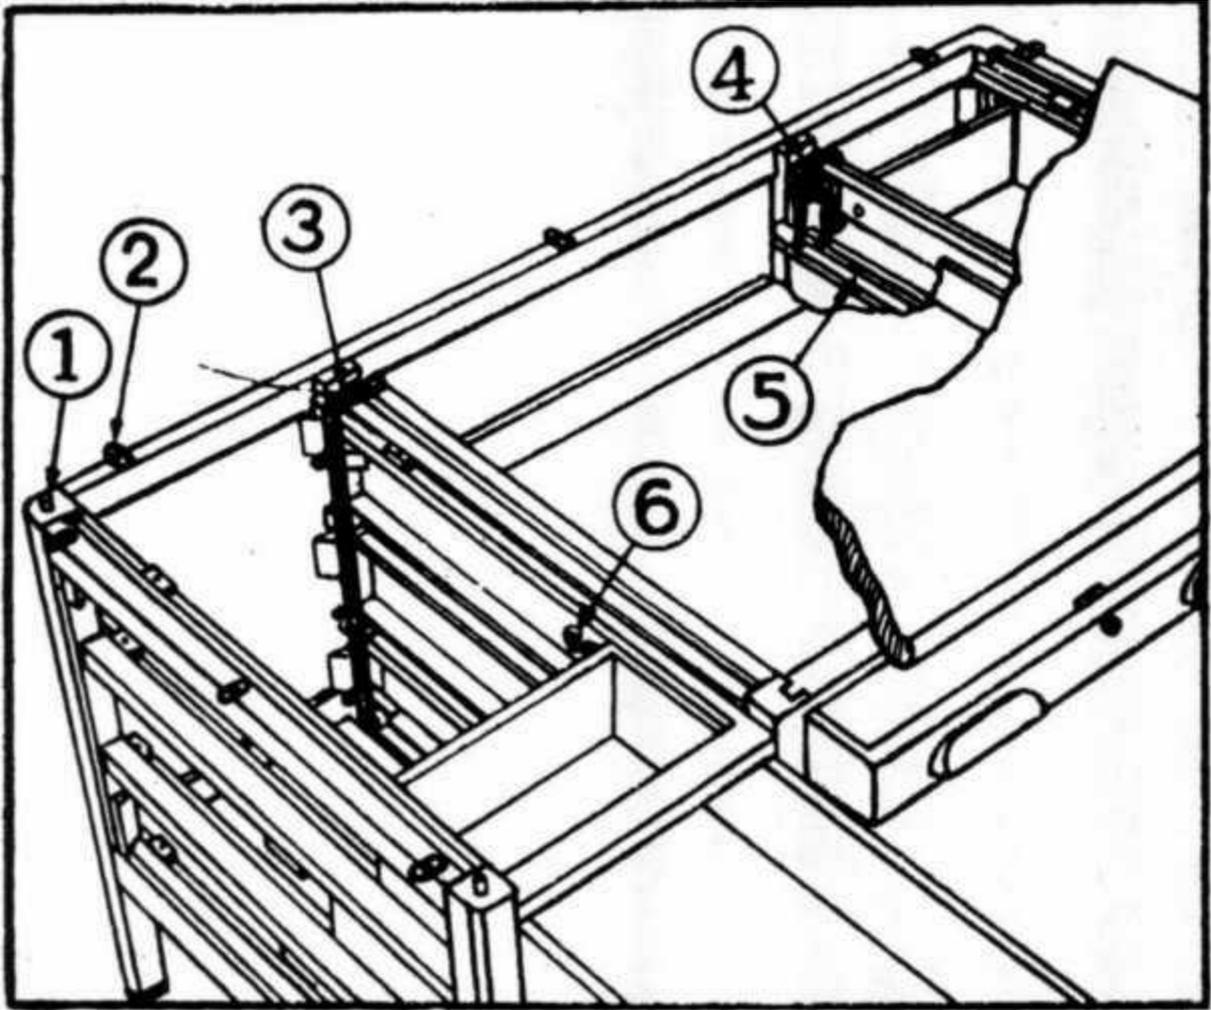

Fig. 21 &'udaway View uC Rear Section of Flat Top Desk
The ordinary wooden desk is opened quickly when the Locksmith knows the construction of the two locking devices ordinarily employed. The Locksmith will encounter the remote control lock most often (4 in Fig. 21) In this construction, the center, top drawer contains the lock. When all the drawers are closed, the center drawer is locked, the whole desk is secured. The side drawers are locked by leverage action when the center drawer is closed tightly. The center drawer when pushed against the locking lever (4), forces the locking rod (3) down into the hook (6) on the end of each drawer. These desk drawers can be unlocked if the locking rod (3 in the illustration) can be reached and manipulated. These rods are usually underneath and to the rear of the side drawers. By reaching under, one can feel a wooden or steel rod. Raising this releases all of the drawers on one side. An extension of this rod can be found at the back end of the guide on either side of the center drawer. Just lift, or depress the extension, and one side of drawers will be free to open. A pair of pliers or a jimmy will be needed to remove or bend the plates that some manufacturers have installed to prevent access to these rods. Wooden panels can be removed by prying off the molding strips.
Some flat desk tops are held in place by loose wooden dowel pegs (1 in Fig. 21) In order to release the lock of the center drawer, try to lift up the top first. If this doesn't yield, look for small angle brackets (2 in the illustration) that secure the top to the body. Remove the screws and lift the top free of the lock. Another method for releasing the center drawer is to unfasten the cross piece underneath the face of the drawer. An alternative to this is to remove the guide channels (5 in the illustration) of the drawer permitting the drawer to be lowered out of place.